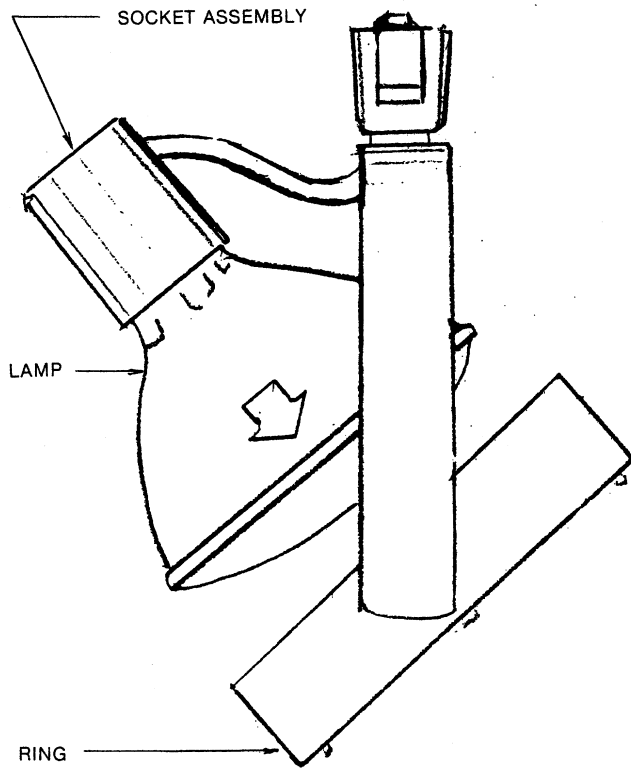

FIG. 5
FIGS. 5 and 6.
2. Screw Lamp into SOCKET ASSEMBLY as shown (Fig. 5).